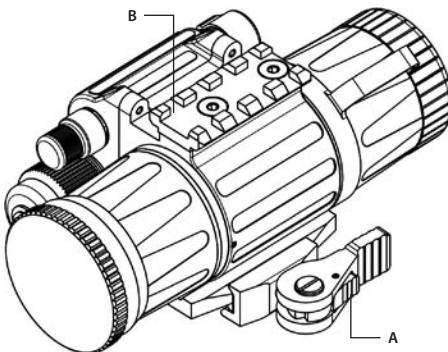

FIGURE 2-1. CO-MINI NIGHT VISION CLIP-ON DEVICE AS DELIVERED
The CO-MINI consists of two primary parts: the night vision device (hereafter referred to as "NVD"), and the quick-release mount, or mount. The CO-MINI is delivered as shown in Figure 2-1: the mount (A) and top Weaver rail (B) should be secured on the NVD seating rails with M4x8 screws.